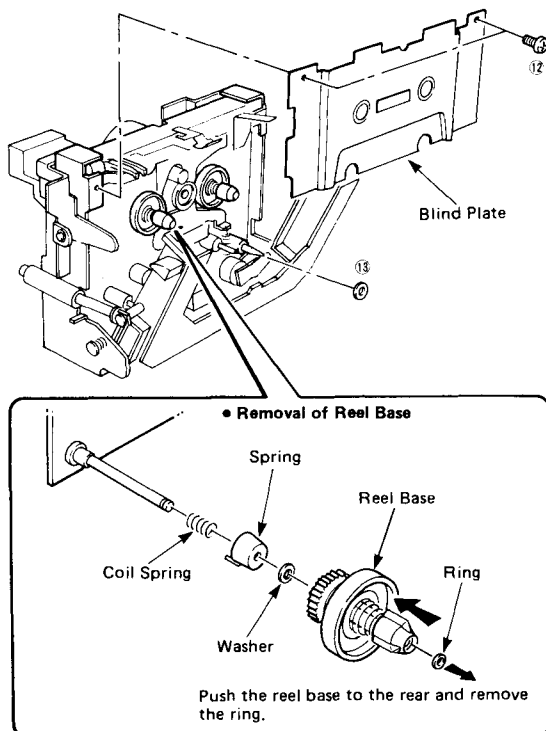

Fig. 8
- b. Remove 2 screws ⑫ in Fig. 8 and remove the blind plate.
- c. Remove the reel base as shown in Fig. 8.
- e. Remove the washer ⑬ in Fig. 8 and remove the flywheel (take-up side).